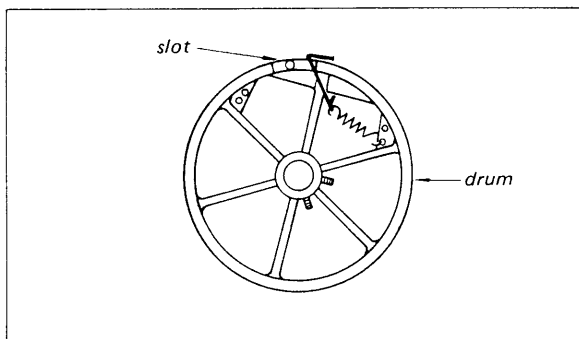

Fig. 2-7. Coil spring installation
1. Hook the spring to one hole of the drive drum, and then squeeze it as shown in Fig. 2-7.